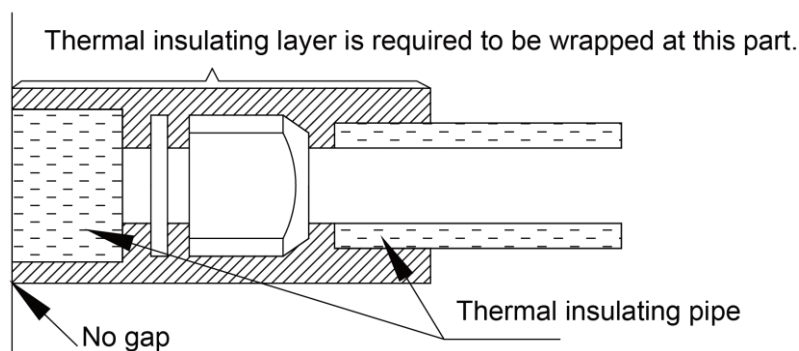

Fig. 21
- 4) Joints of indoor and outdoor unit should be wrapped with insulating material and leave no gap between pipe and wall. See Fig.21.